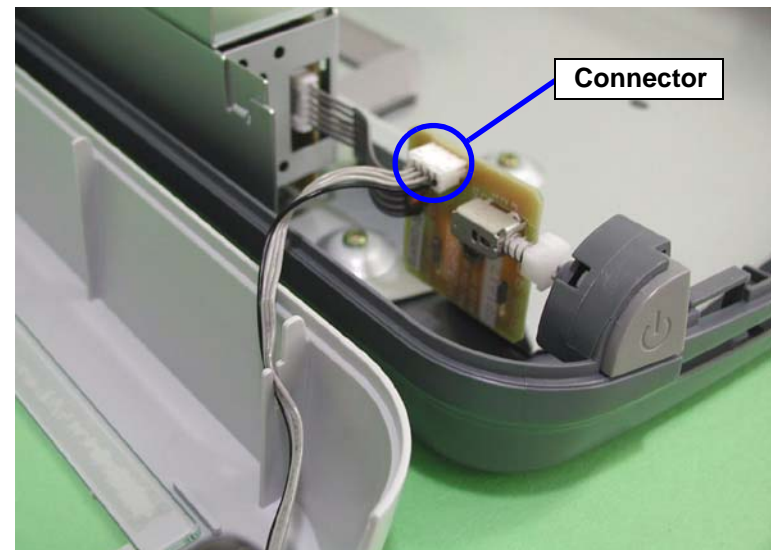

Figure 4-8. Upper Cover Removal (3)
5. Disconnect the connector (CN1) from the SUB_A circuit board. (See Figure 4-8)